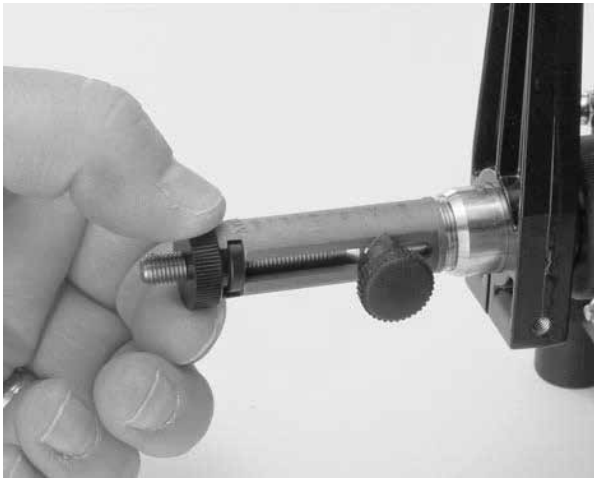

Figure 3
1. Loosen the adjustment locking knob and turn the concentration adjustment knob to the maximum setting, position 10 (Figure 3).